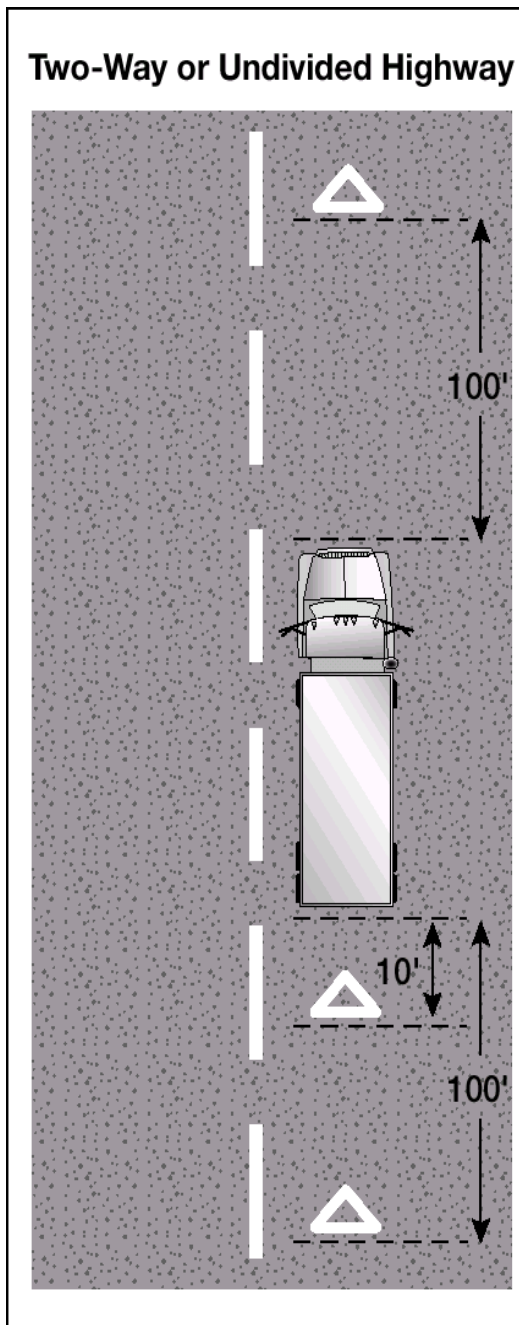

Figure 2.9
2. If you stop on a two-lane road carrying traffic in both directions or on an undivided highway, place warning devices within 10 feet of the front or rear corners to mark the location of the vehicle and 100 feet behind and ahead of the vehicle, on the shoulder or in the lane you stopped in. See Figure 2.9.